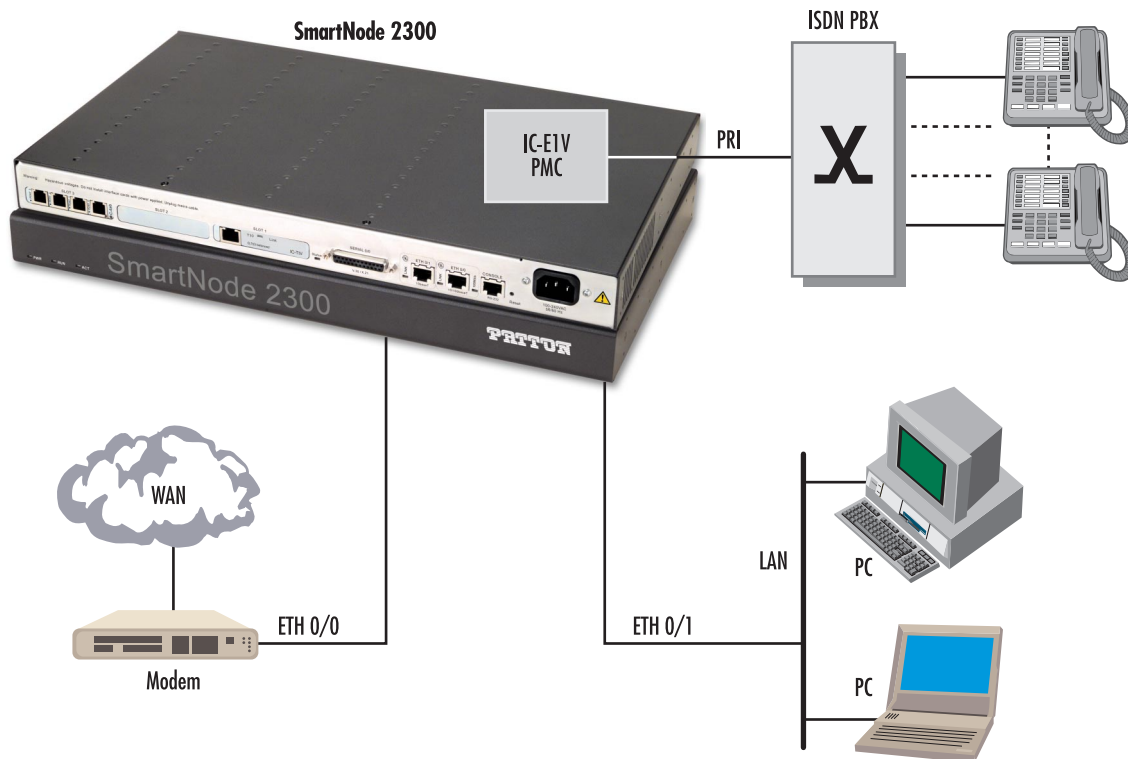

Figure 32. SmartNode 2000 Series device connected to a PBX via one PRI (with IC-E1V card) into an IP network
In figure 32 the SmartNode 2000 series with an optional IC-E1V interface card installed is used as a voice gateway and IP router in a company headquarters.
- Figure 32 on page 57